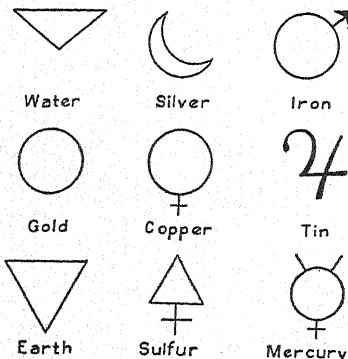

FIG. 8a. — Symbols used by alchemists.
**15. What Is Meant by a Symbol?** The alchemists used symbols to represent elements and compounds. Some of them were based upon astronomical symbols; some had their origin in mythology; and others were mystical. They varied from time to time and many different symbols for the same element were used in one manuscript. (See Fig. 8a.)